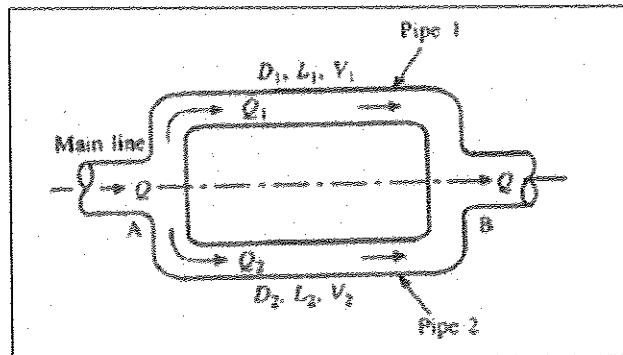

Figure 3 / Rajah 3
- c) The main pipe divides into two parallel pipes which again forms one pipe as shown in Figure 3. The data is given in Table 2 below :